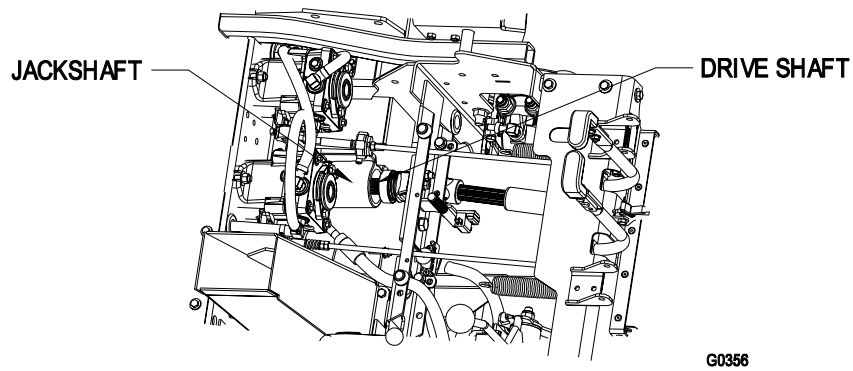

FIGURE 1
- Raise seat and install drive shaft onto jackshaft (See Figure 1).
- h) Raise seat and disconnect drive shaft using quick coupler at jackshaft. See Figure 1.